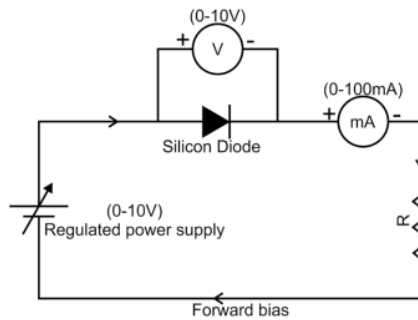

Fig P14.1
1. Connect the p-n Junction diode ( Si/Ge) in forward bias as shown in Fig. P14.1.